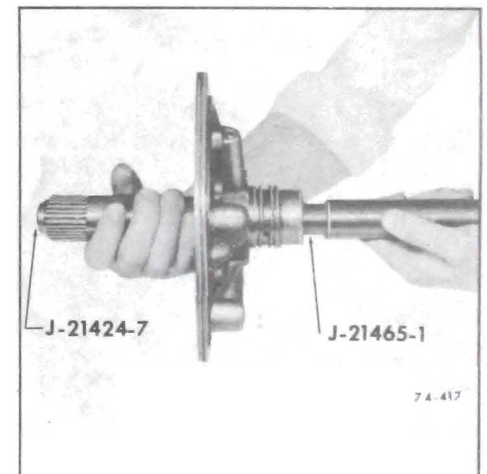

Figure 74-188
14. Check stator shaft bushing for nicks, severe scoring or wear. If bushing replacement is necessary remove as follows: Assemble Bushing Remover J-21424-7 to Extension J-21465-13. Assemble this assembly to Drive Handle J-8092. Grasp stator shaft with hand, using other hand and assembled tools drive out bushing. See Figure 74-188.